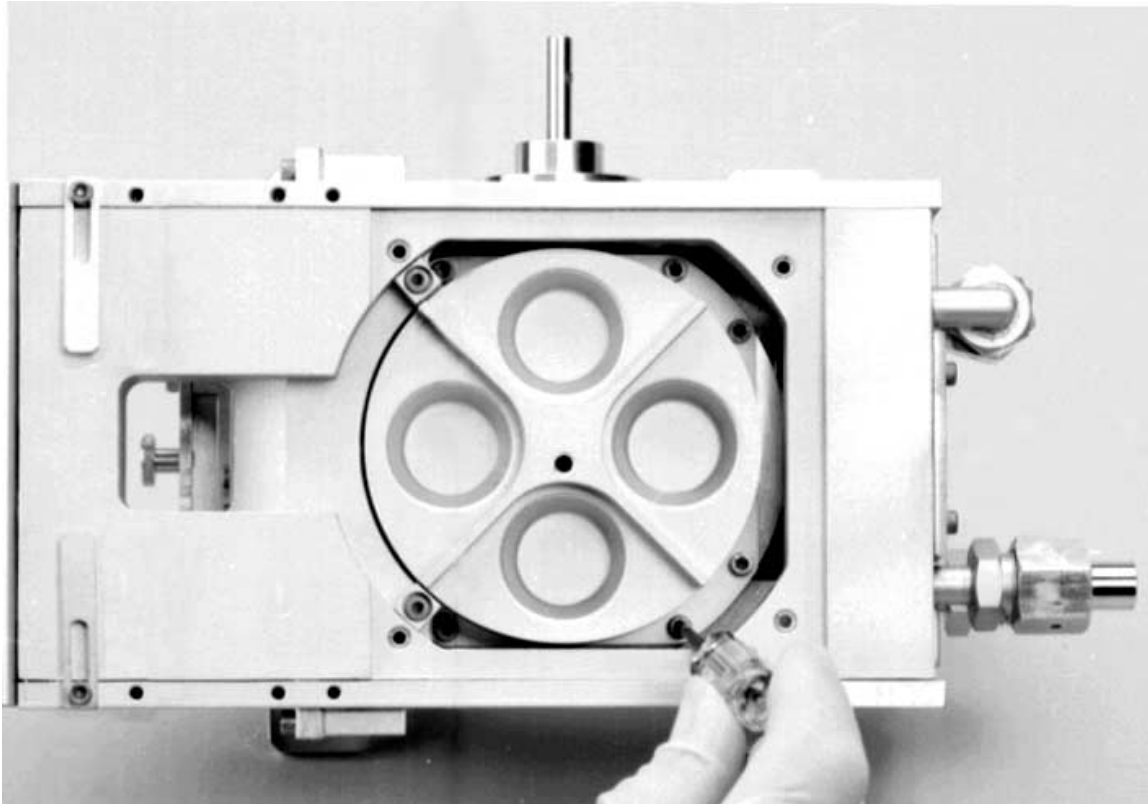

Figure 6-4. Removing the screws that secure the crucible to the crucible mounting flange
Step 3: Remove the screws securing the crucible to its mounting flange. There are eight of these screws, and six of them will be accessible if you turn the crucible to the position shown in Figure 6-4. Perform the following steps in removing these screws: